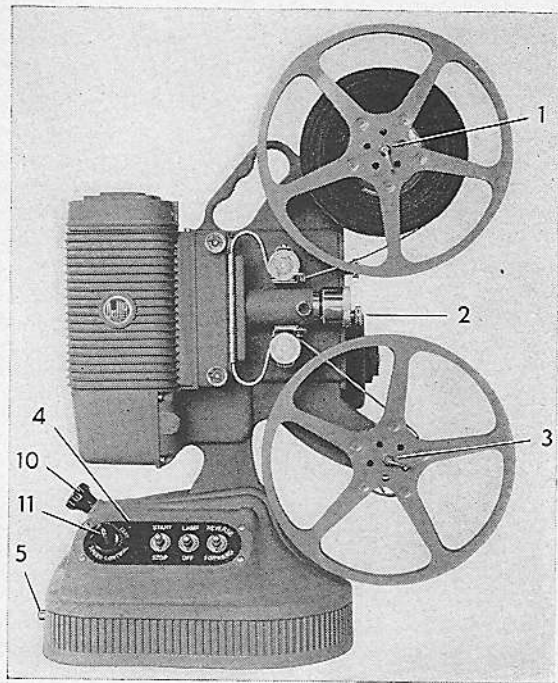

Fig. 1—Control Side of Projector
The DeJUR "1000" Projector comes equipped with a cord which is coiled by an automatic spring-reel return located in the base of the projector. For use, simply draw the cord out to the desired length. The cord will remain fixed at the desired length. In order to return the cord within the projector base, press the button (5, Fig. 1) and allow the spring-reel to rewind, drawing the cord back into the base of the projector. Then release the button and the projector is ready to be put away. The DeJUR "750" projector does not have the automatic cord reel but is equipped with a plug and cord. Make certain this cord plug is firmly pressed into socket on base of projector when preparing to project.
1. Rotate speed control knob fully to left (counter-clockwise) and then turn it back about half-way (4, Fig. 1).
1. Place reel of film to be projected on upper spindle (1, Fig. 1) making sure slot in reel is engaged with pin on spindle. Snap down safety catch on spindle to secure reel.
2. Place empty reel on lower spindle (3, Fig. 1) and snap safety catch.
9. Turn threading knob (2, Fig. 1) by hand. Film should move through channel intermittently and both loops should retain their size.